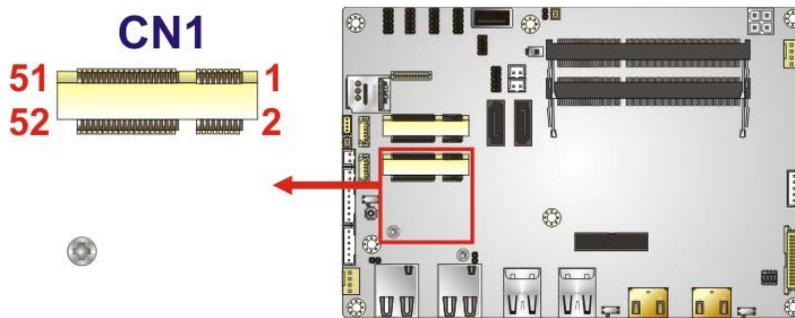

Figure 4-15: Half-size PCIe Mini Slot Location
- CN Location: See **Figure 4-15**